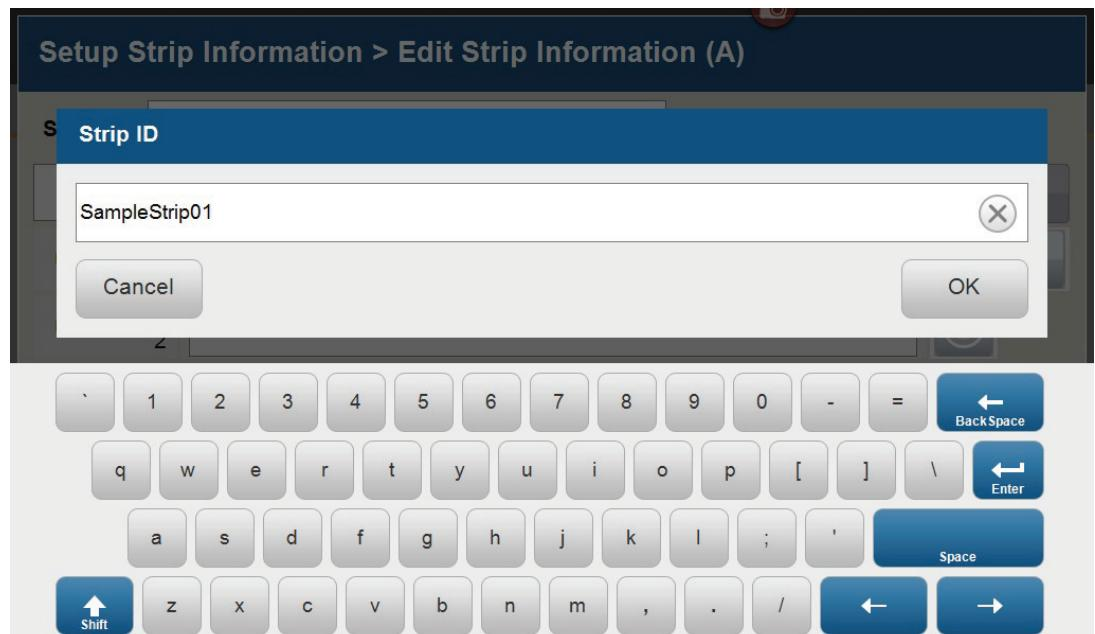

Figure 12. 'Set Strip ID' window.
3. The default Strip ID is date and time. It can be modified by selecting the Strip ID box. This opens the 'Set Strip ID' window and a keypad will become active on the touch screen (Figure 12). Alternatively, the Strip ID can be entered using a traditional keyboard if one is connected to the Spectrum Compact CE System. Enter the appropriate Strip ID, then select **OK** to exit and return to the 'Edit Strip Information' screen.